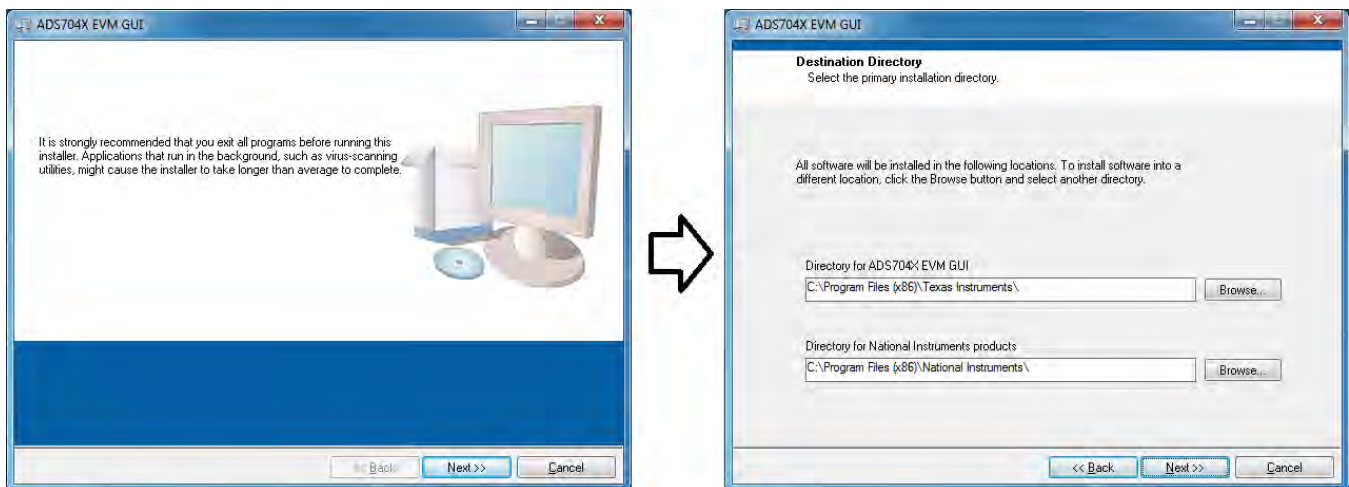

**Figure 6. LED Indicators on the Simple Capture Card**
- Step 6. Verify that the LED D5 Power Good indicator is illuminated. Wait approximately ten seconds and verify that diode D2 blinks, indicating that USB communication with the host PC is functioning properly. Figure 6 shows the location of the LED indicators in the Simple Capture Card.